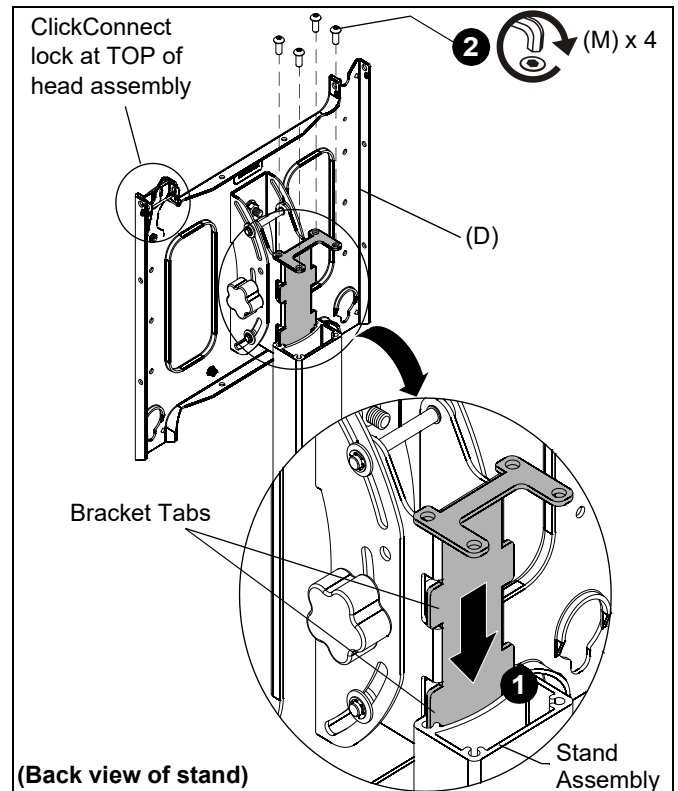

Figure 5
IMPORTANT ! : When attaching head assembly ensure that the ClickConnect lock is at TOP of head assembly, and bracket tabs slide into the stand assembly. (See Figure 5)
- Slide head assembly (D) into the stand assembly. (See Figure 5)
- Attach head assembly to stand using four 5/16-18 x 3/4" button head cap screws (M). (See Figure 5)
IMPORTANT ! : When attaching front head assembly ensure that the ClickConnect lock is at TOP of head assembly, and bracket tabs slide into the stand assembly. (See Figure 5)